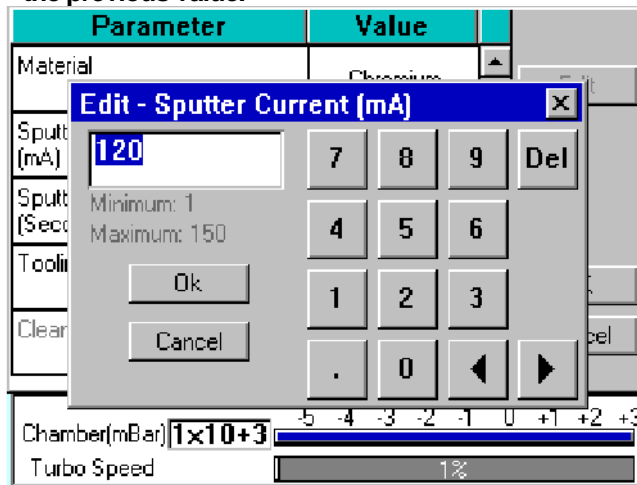

Figure 4-4. Editing Profile Parameters
To edit the profile currently selected on the standby screen, tap on the Edit Profile button. The editable parameters of the selected profile are displayed (see Figure 4-4).
3. Change the value as required (see Figure 4-4). The instrument displays a dialog box for editing purposes, with either a numeric keypad or keyboard as required. The dialog box also shows the allowed values for the parameter.